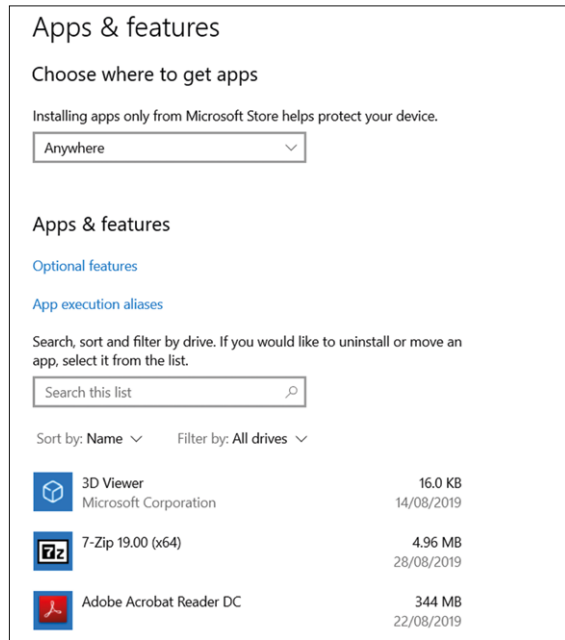

Figure 3.10 Apps & Features
- Click Manage optional features under Apps & features (see Figure 3.10)